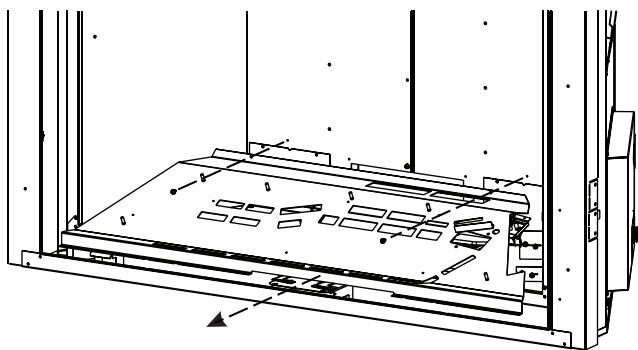

Figure 8
3. Remove burner base. See Figure 8.